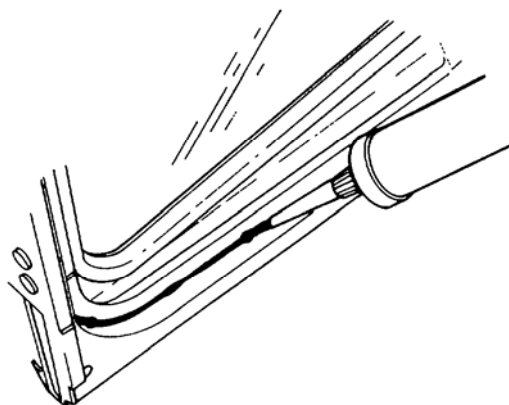

Figure 9 Windscreen Frame - Applying Sealant
- f. Apply a thin bead of suitable sealant to the front face of the windscreen frame flange (Figure 9).